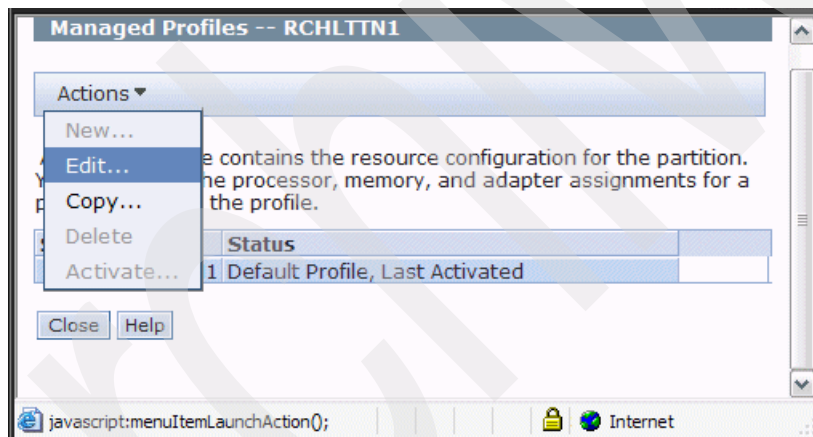

Figure 5-2 Managed Profiles
2. Select **Actions** → **Edit** as shown in Figure 5-2